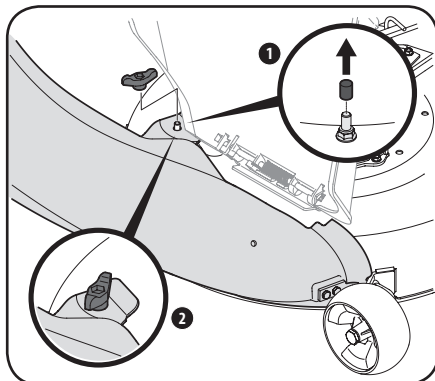

Figure 4-13
2. Secure the chute elbow to the deck using a wing knob (720-04122) from hardware pack 689-00567. See Figure 4-13.
Note: If present, remove the protective cap off of the mounting stud on the mowing deck as shown in the upper inset of Figure 4-13.